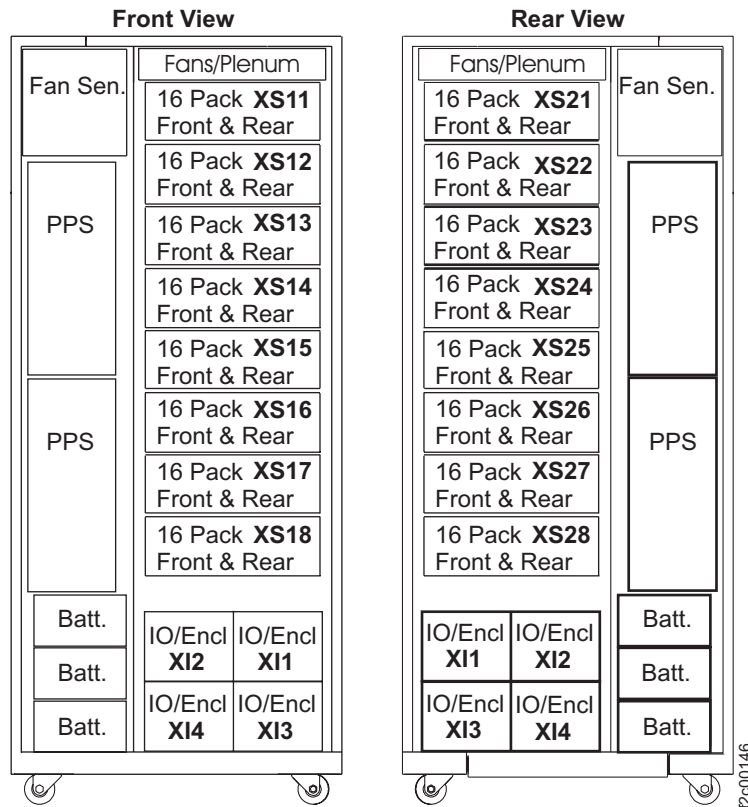
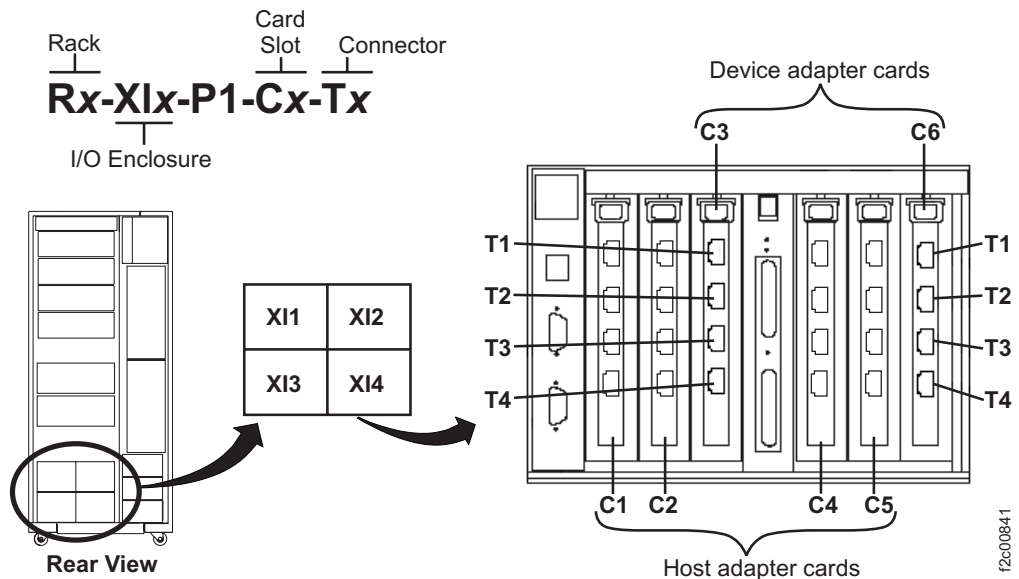

Figure 46. Storage expansion rack
Figure 47. I/O enclosure locations (rear)
An example of a storage enclosure pair are storage enclosures XS11 and XS21 in Figure 46 on page 52.
- The storage enclosure location code displayed by the HMC is of the format "Rx-Sxx". The storage enclosure physical location code in Figure 46 on page 52 is of the format "XSxx". They both refer to the same location.
- a. Using the displayed location code, refer to Figure 46 on page 52 to determine the location of the storage enclosure in the rack.
- c. Refer to Figure 46 on page 52 and Figure 47 on page 52 to find the location of the enclosure for the other end of the cables.